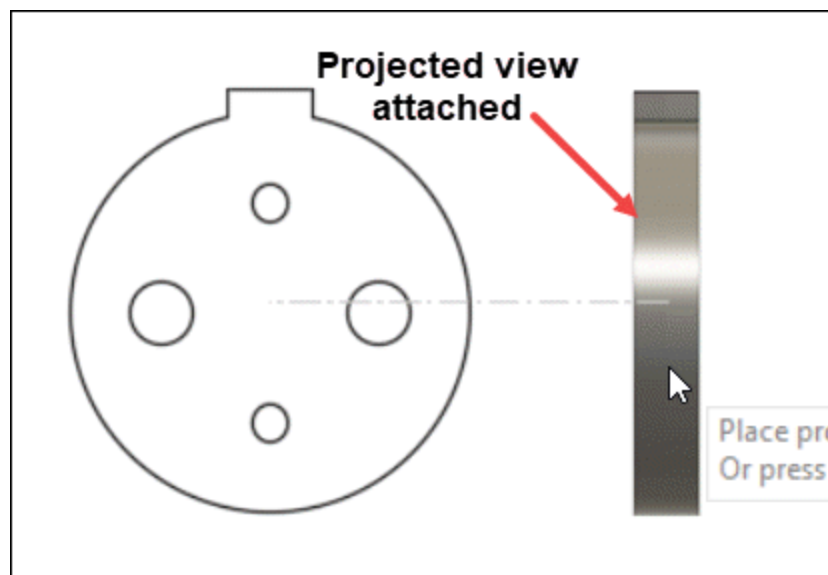

Figure-145. Projected view attached to cursor
- Select the view earlier placed and move the cursor towards right. The view will get attached to the cursor; refer to Figure-145.